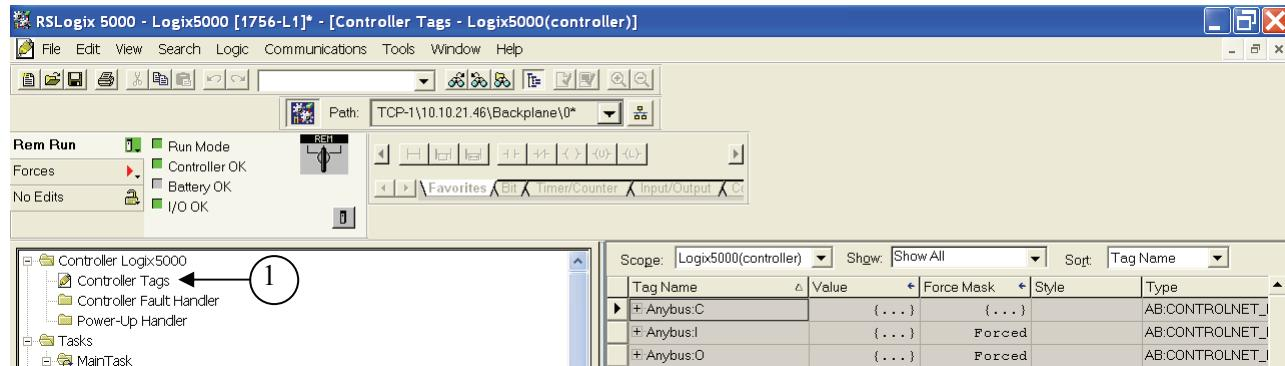

Figure 34 Monitoring the tags.
Firstly go online and switch to “Remote Run” on the PLC. To monitor the tags open the “Controller Tags” window❶ as seen in Figure 34 below.